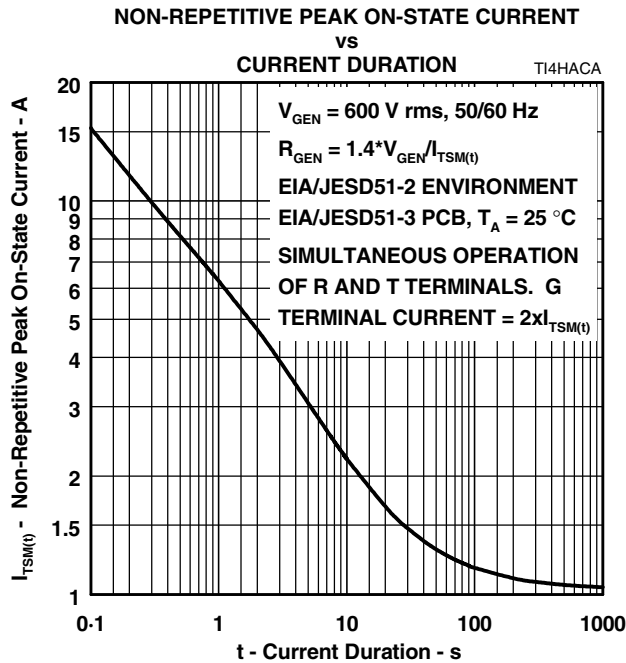

Figure 8.
5. EIA/JESD51-2 environment and EIA/JESD51-3 PCB with standard footprint dimensions connected with 5 A rated printed wiring track widths. See Figure 8 for the current ratings at other durations. Figure 8 shows the R and T terminal current rating for simultaneous operation. In this condition, the G terminal current will be  $2 \times I_{TSM(t)}$ , the sum of the R and T terminal currents. Derate current values at -0.61 %/ $^\circ\text{C}$  for ambient temperatures above 25  $^\circ\text{C}$ .
The protector can withstand the G return currents applied for times not exceeding those shown in Figure 8. Currents that exceed these times must be terminated or reduced to avoid protector failure. Fuses, PTC (Positive Temperature Coefficient) resistors and fusible resistors are overcurrent protection devices which can be used to reduce the current flow. Protective fuses may range from a few hundred milliamperes to one ampere. In some cases, it may be necessary to add some extra series resistance to prevent the fuse opening during impulse testing. The current versus time characteristic of the overcurrent protector must be below the line shown in Figure 8. In some cases, there may be a further time limit imposed by the test standard (e.g. UL 1459 wiring simulator failure).